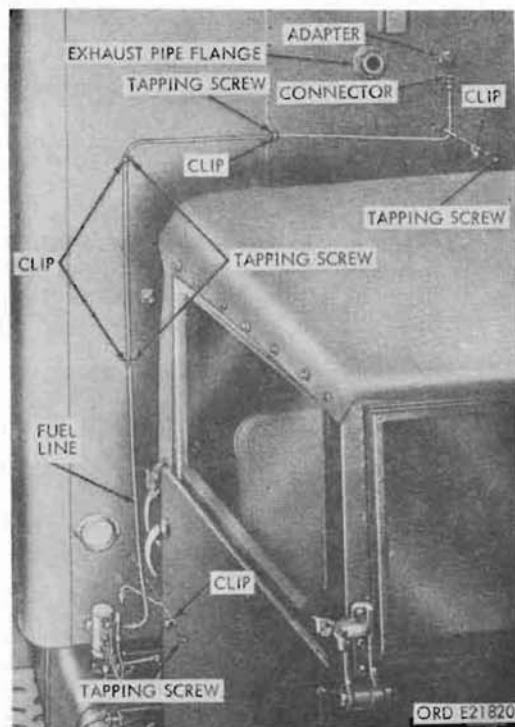

Figure 385. Fuel pump to adapter fuel line
- (4) Disconnect adapter-to-heater fuel line upper fitting at heater (fig. 385).
- (2) Slide heater unit onto support bracket, and connect heater to exhaust pipe coupling.
- (3) Secure heater to support bracket with four existing bolts, washers, and lockwashers.
- (4) Install exterior exhaust pipe and elbow on exhaust pipe, and secure clampover exterior pipe and bracket.
- (5) Connect adapter-to-heater fuel line upper fitting at heater (fig. 385).
- (1) **Fuel line adapter (fig. 385).**
- (d) Install adapter-to-heater line on adapter ((2) below).
- (2) **Adapter-to-heater fuel line assembly (fig. 385).** Install adapter-to-heater line by connecting upper and lower fittings to the adapter and heater.